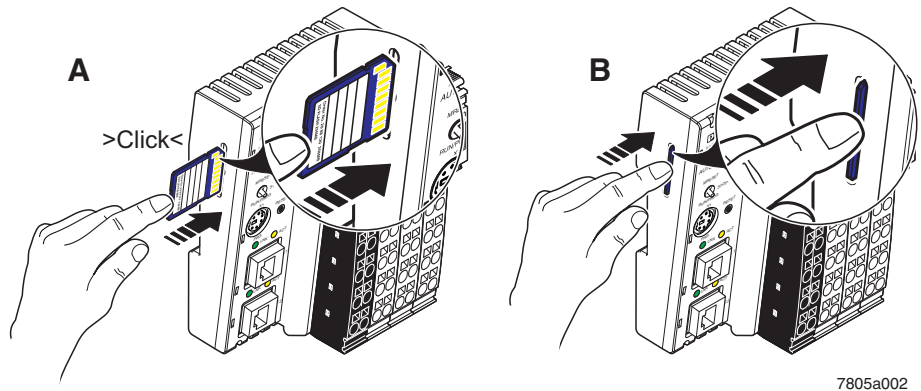

Figure 2-11 Inserting (A) and removing (B) the parameterization memory
- Insert the parameterization memory (SD card) into the slot as shown in Figure 2-11 (A).
- Applying light pressure, push the parameterization memory into the slot in the direction shown in Figure 2-11 (B) until the snap-on mechanism releases the parameterization memory and partially ejects it from the slot. Remove the parameterization memory.